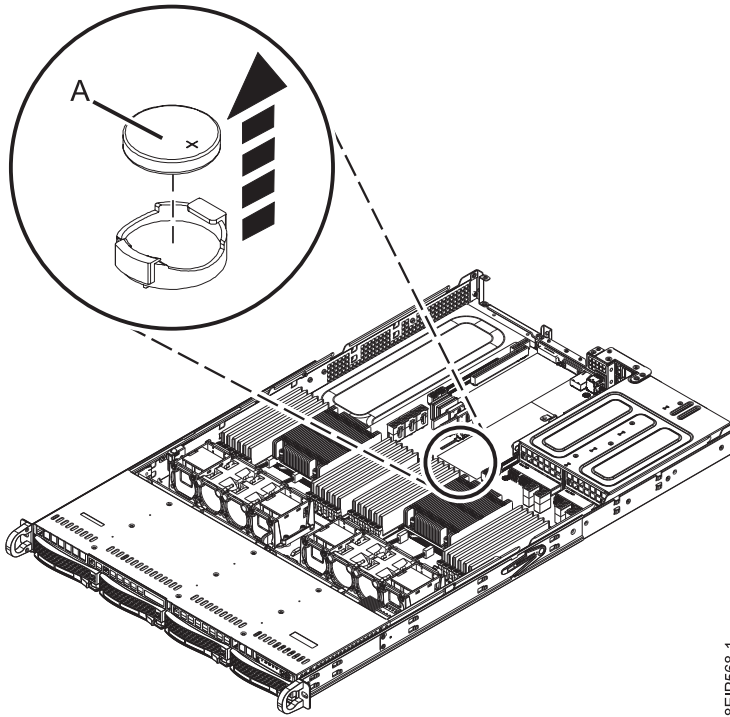

Figure 88. Time-of-day battery location
3. Remove the time-of-day battery (A) as shown in Figure 88 on page 71. When you remove the battery, do not use a metallic tool to disengage it from its slot.